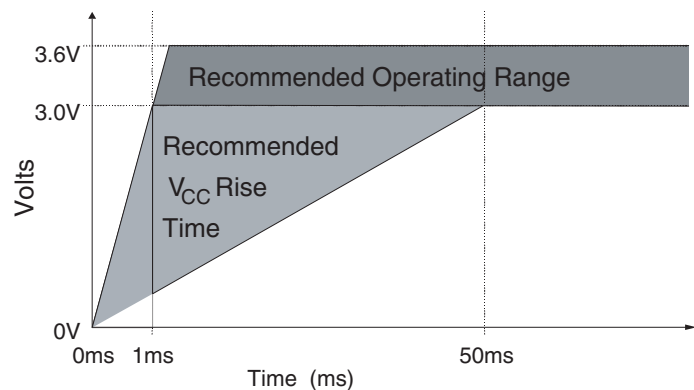

Figure 8: VCC Power-Up Requirements
On power up, OE/RESET is held low until the XC18V00 is active (1 ms). OE/RESET is connected to an external resistor to pull OE/RESET HIGH releasing the FPGA INIT and allowing configuration to begin. If the power drops below 2.0V, the PROM resets. OE/RESET polarity is *not* programmable. See Figure 8 for power-up requirements.
- At power up, the device requires the V_{CC} power supply to monotonically rise from 0V to nominal voltage within the specified V_{CC} rise time. If the power supply cannot meet this requirement, then the device might not perform power-on-reset properly. See Figure 8.